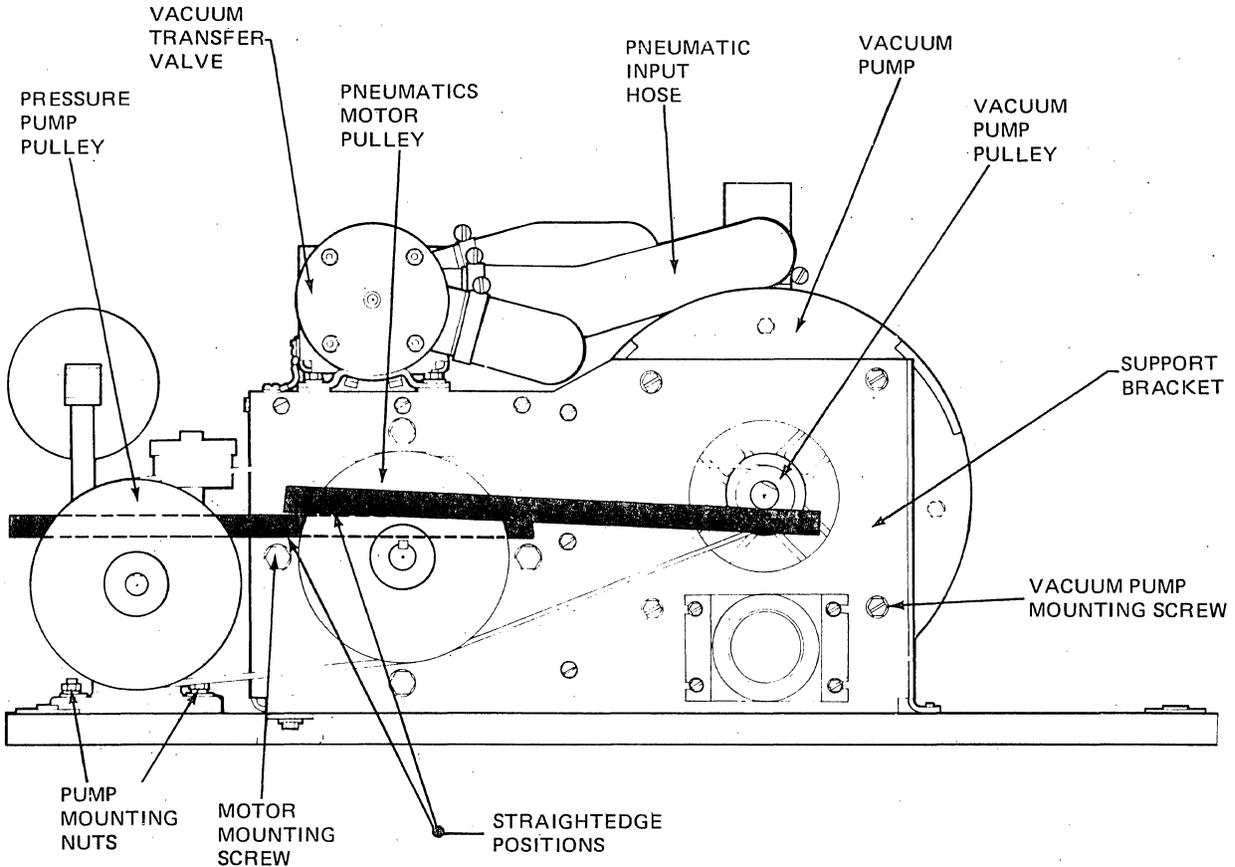

Figure 4-11. Pneumatic Supply Assembly (Front View)
1. Check to see that the distance from the motor support bracket to the backside of the motor pulley is $.68 \pm .03$ inch (see Figure 4-11).
2. If the pulley is out of specification, loosen the pulley setscrews (2) and adjust the pulley to proper tolerances.
3. Re-tighten the pulley setscrews (2).
1. Place a straightedge across the front flange of the motor pulley -- not the pulley hub -- so that it extends across the front of the vacuum pump pulley. (The straightedge must extend to the farthest edge of both pulleys -- see Figure 4-11).
2. If the vacuum pump pulley is not flush with the straightedge that is resting on the motor pulley, loosen the setscrews (2) securing the vacuum pump pulley.
straightedge must extend to the farthest edge of both pulleys--see Figure 4-11). The pressure-pump pulley should align flush with the straightedge (using the motor pulley as the guide).